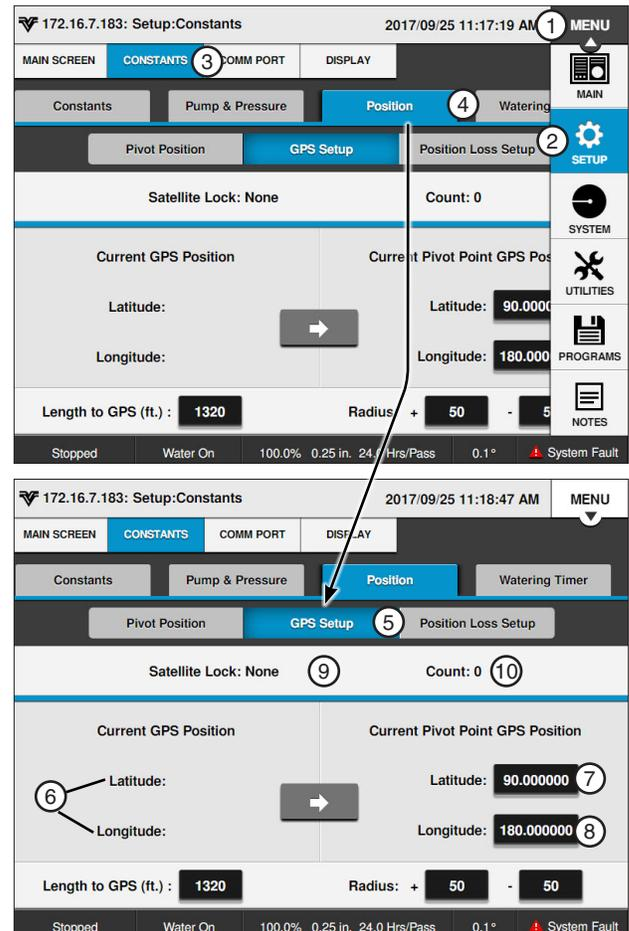

Figure 29-1 1. Menu 2. Setup 3. Constants 4. Position 5. GPS Setup 6. Current Position 7. Latitude 8. Longitude 9. Satellite Lock 10. Count
The current GPS latitude and GPS longitude of the GPS antenna is displayed at the top of the screen when it is locked on the satellite signal. The current position is only displayed when the Comm Port protocol is set to PLC GPS V2 or Valley GPS. Refer to Figure 29-1.
1. Push **Menu**, **Setup**, **Constants**, **Position** and **GPS Setup** to display the GPS Setup screen. Refer to Figure 29-1.